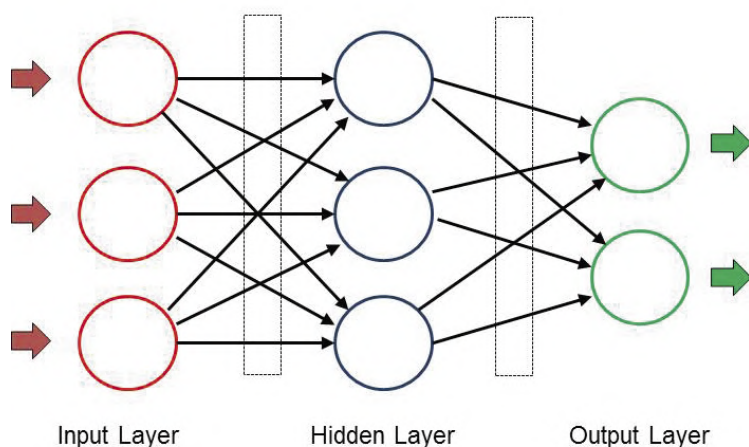

Figure 1: Structure of a neural network.
A neural network (NN) consists of several layers, each of which has several nodes. In **Figure 1** the nodes of a layer are arranged vertically. Theoretically, there can be any
A particularly suitable architecture for image and audio processing is the **Convolutional Neural Network**, which is also supported by Maixduino. In such a CNN, the neurons (at least in some of the layers) are arranged two-dimensionally, which fits to two-dimensional input data such as an image. Compared to the network indicated in Figure 1, where the activity of a neuron depends on all neurons of the previous layer (via different weighting factors), the dependency is simplified and locally limited in the case of CNN. Here, the activity of a neuron depends only on the values of (for example) 3 x 3 neurons, which are located in the layer before it — the weighting factors are the same. With such a network, small-scale structures such as lines, curves, points and other patterns can be detected particularly well. In the subsequent layers,